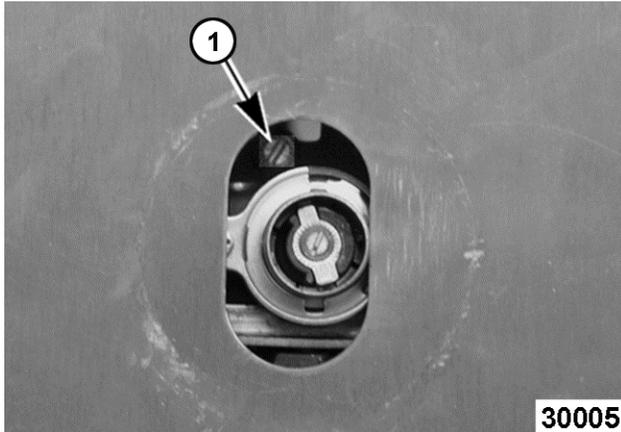

Fig. 85
6. With a small flat edge screwdriver, turn by-pass flame adjustment screw Fig. 85 counterclockwise to increase by-pass flame or clockwise to decrease flame until both legs of burner have approximately 1/8" stable flame on each port. Ports should be set to just above "flickering".